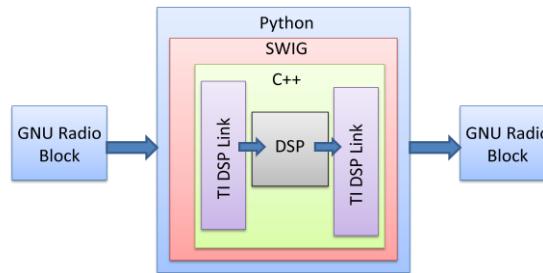

Figure 2. Application level abstraction of the DSP in the OMAP processor. [1]
- There are GNU Radio blocks which utilize the DSP, those blocks use the GPP side DSPLink shared library to communicate with the DSP. It specifies the function it wants from the DSP and it sets them up, e.g. filter coefficients. Figure 2 shows how the DSP based GNU Radio blocks operate like.